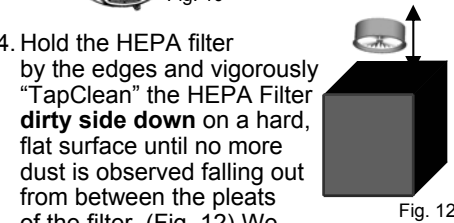

Fig. 12
4. Hold the HEPA filter by the edges and vigorously "TapClean" the HEPA Filter **dirty side down** on a hard, flat surface until no more dust is observed falling out from between the pleats of the filter. (Fig. 12) We recommend washing the HEPA filter once a month or when suction appears to be reduced. Let the HEPA filter air dry completely for 24 hours.